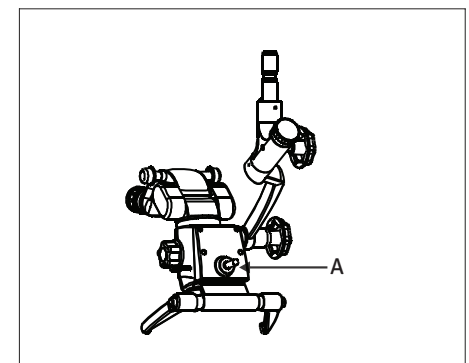

Fig. 45
- Insert the light guide into the receptacle in the microscope till it properly tighten into position as shown as A in Fig.45.